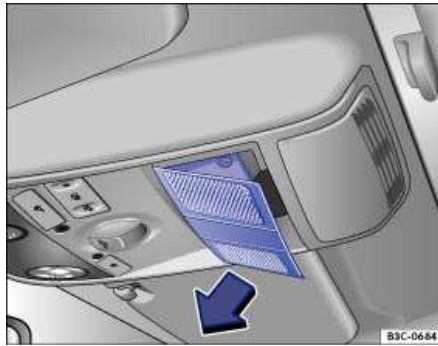

Fig. 175 In headliner: Removing cover.
1. Remove the cover in direction of the arrow ⇒ fig. 175.